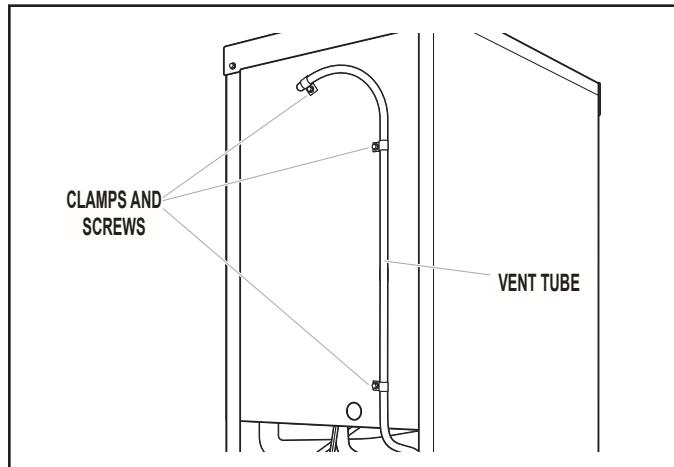

FIGURE 7
- Secure vent tube to back of ice maker using three (3) clamps and the three (3) remaining screws supplied in kit. See *Figure 7*.